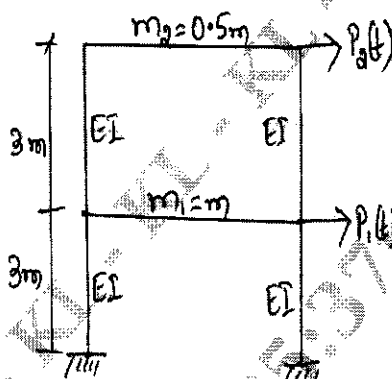

Fig.Q7
- 7 Compute the response due to harmonic loading for the shear frame shown in Fig.Q7. Given  $EI = 24 \times 10^6 \text{ N-m}^2$ ,  $m = 500 \times 10^3 \text{ N-S}^2/\text{m}$ ,  $P_1(t) = 0$ ,  $P_2(t) = (10000 \sin 30 t) \text{ kN}$ , storey height = 3 m.